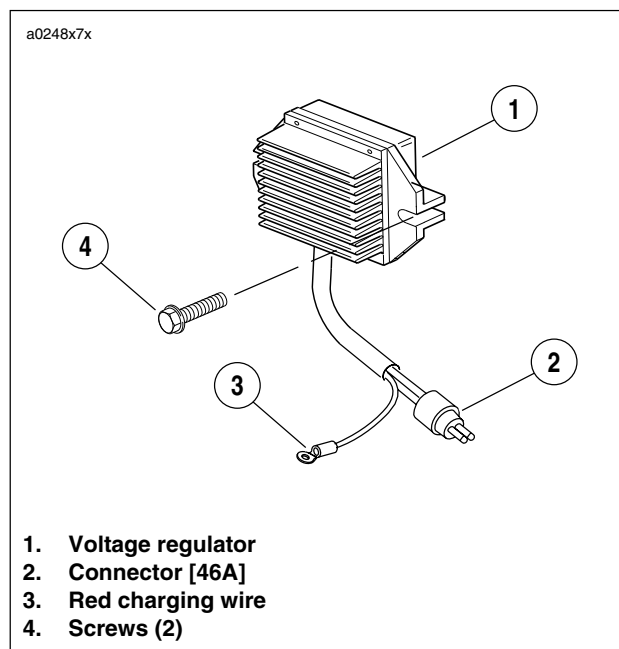

Figure 7-57. Voltage Regulator
- a. See Figure 7-57. Disconnect red charging wire from gold post of main circuit breaker.
2. See Figure 7-57. Attach **new** voltage regulator using two screws. Tighten screws to 48-72 **in-lbs** (5-8 Nm).